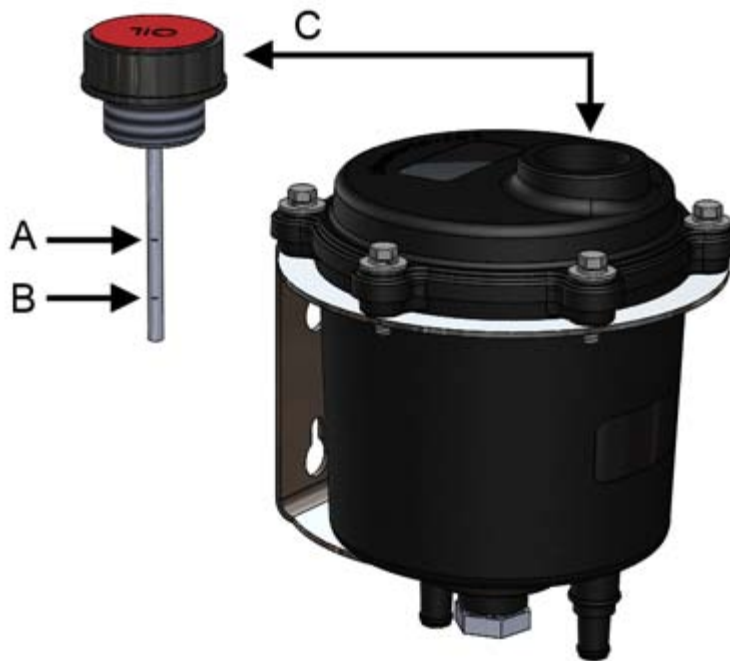

Figure 20. Oil level in the reservoir
5. Add oil to the reservoir until the oil level is between the markings on the dipstick (figure 20, points A and B).